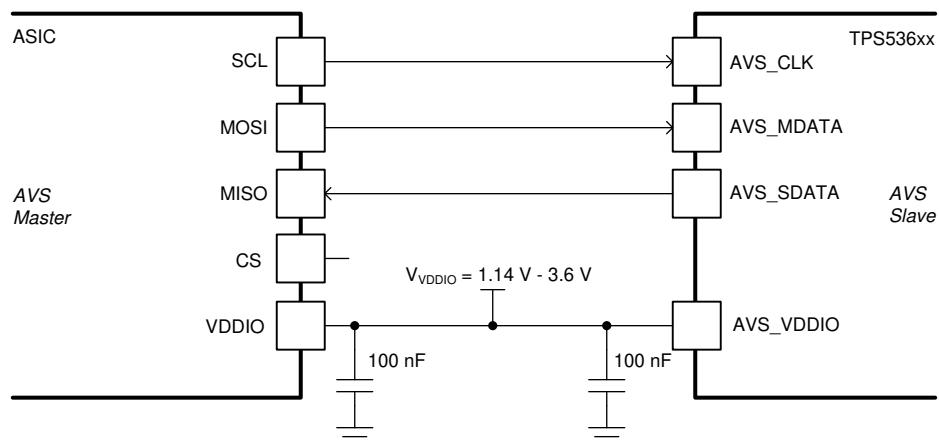

图 7-12. AVSBus connection diagram
图 7-12 illustrates how to interface the TPS53676 with a host ASIC or load with an integrated *Serial Peripheral Interface* (SPI) port. AVSBus is a point-to-point protocol and does not use a chip select (CS) pin. AVSBus uses push-pull signalling and requires a separate supply pin, AVS_VDDIO. Connect a well-regulated supply between 1.14 V and 3.6 V to AVS_VDDIO, and a local high quality ceramic bypass capacitor of 100 nF minimum effective capacitance. The input high and low thresholds are set relative to the voltage supplied at the AVS_VDDIO pin, as shown in the *Electrical Specifications* table. In applications which do not use AVSBus, ground the AVS_VDDIO, AVS_CLK and AVS_MDATA pins; float the AVS_SDATa pin.